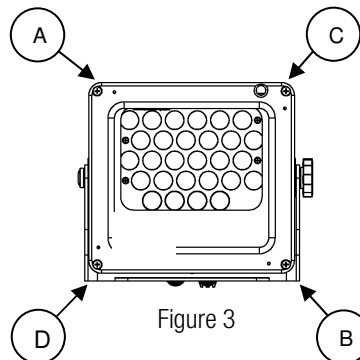

Figure 3
7. Insert halfway the M5 screws in this sequence: A – B – C – D. (Fig. 3) 8. Tighten the screws to full torque in this sequence: